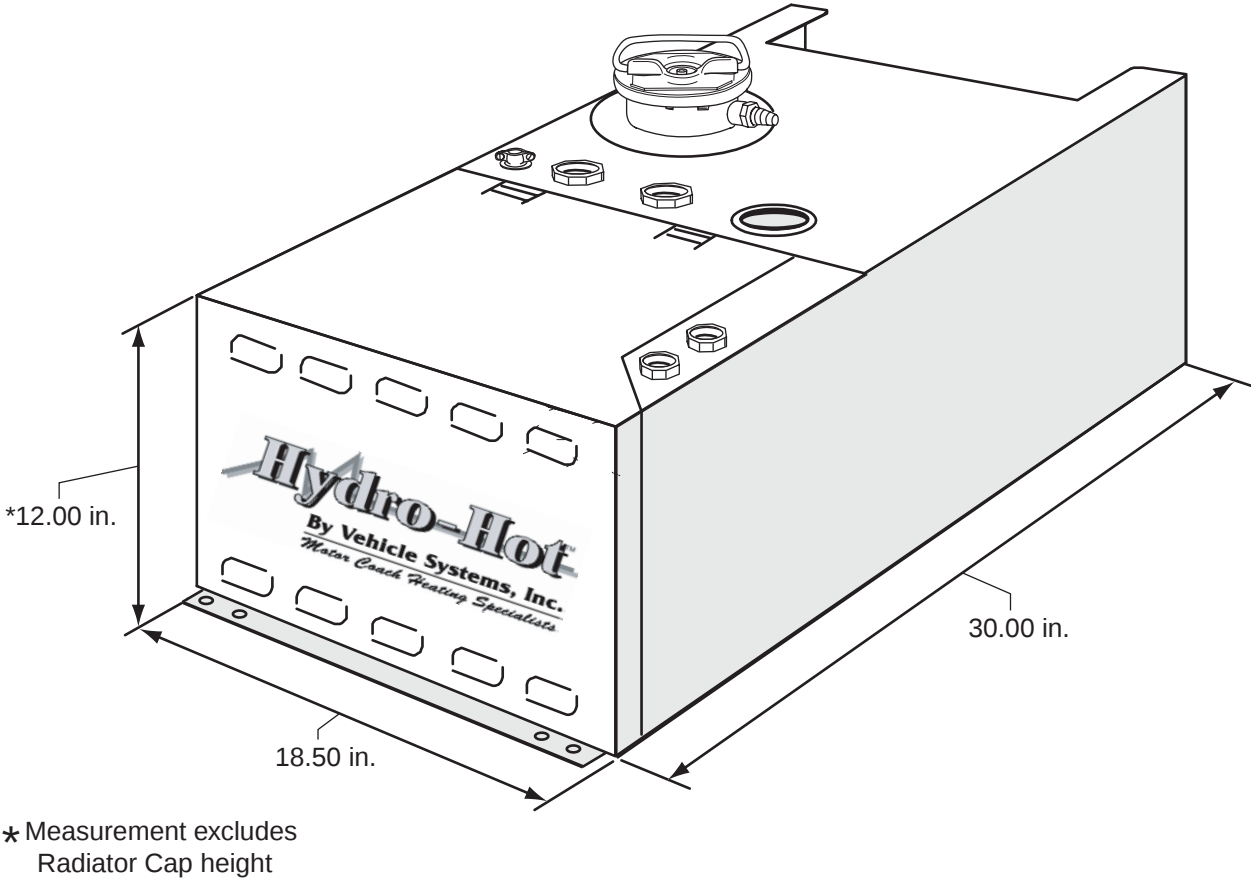

Figure 3A
- Overall Hydro-Hot Dimensions, see Figure 3A.